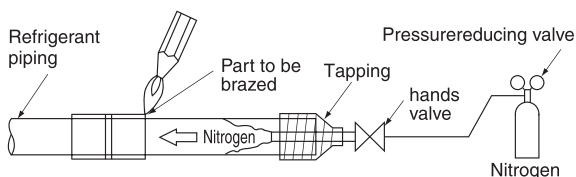

Fig. 4
- Perform nitrogen substituent or apply nitrogen into the refrigerant piping (see NOTE 1) in the case of refrigerant piping brazing (see NOTE 2). Then perform the flare connection of the indoor unit. (Refer to Fig. 4)